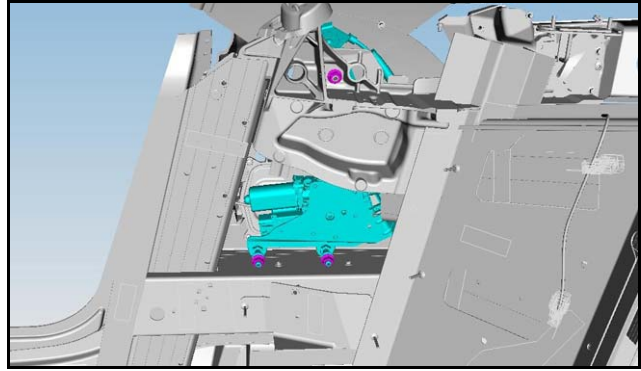

Figure 9
29. Remove the three nuts that attach the regulator to the body (Refer to Figure 9).